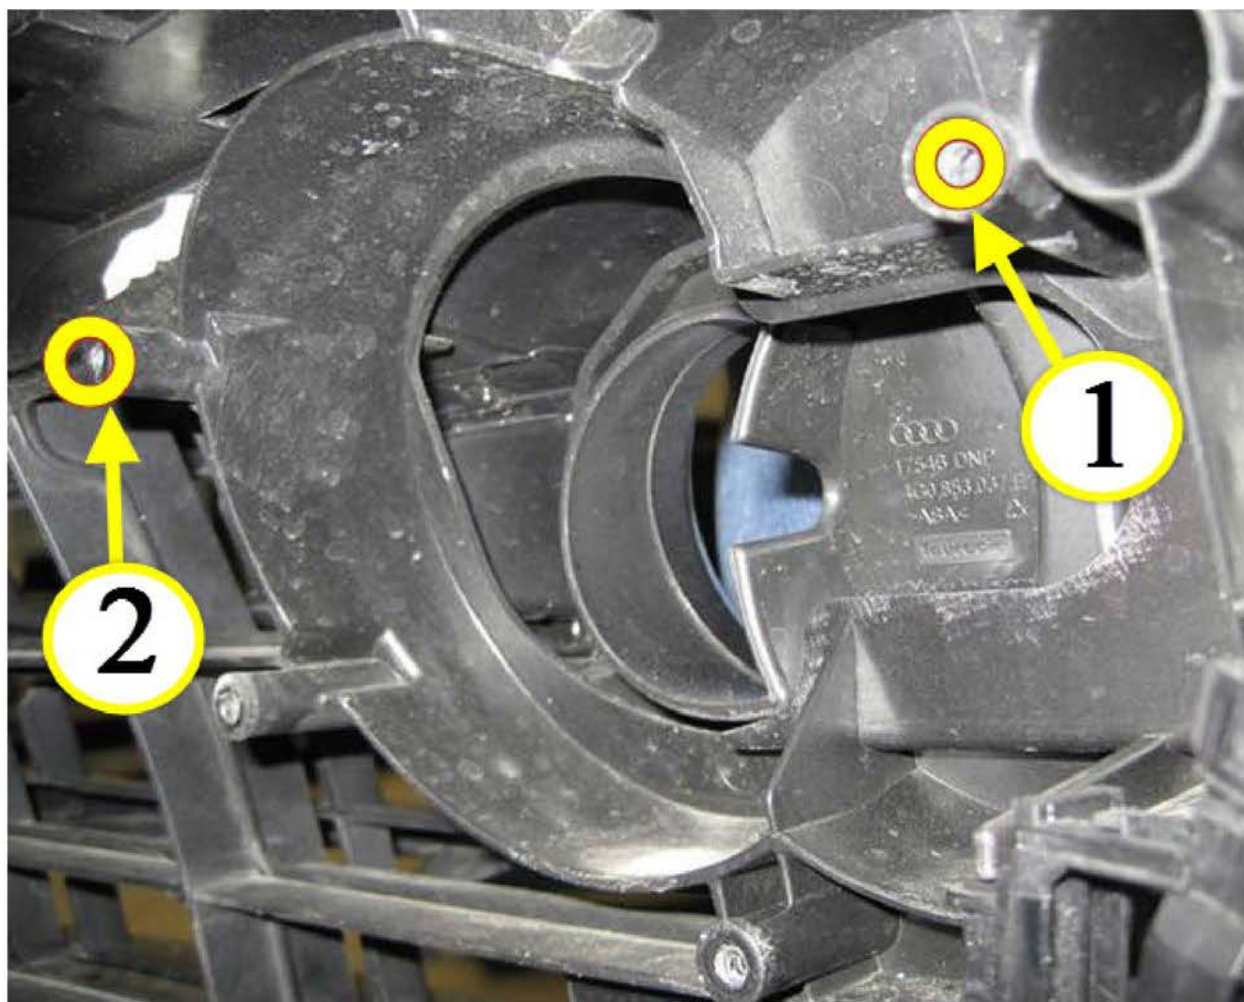

Figure 2. Radiator grill screw retainer locations with camera removed for reference. Spacer (N01152322) will be placed at locations 1 and 2.
7. Place a single spacer, part number N01152322, between each of the two upper mounting points that secure the night vision camera bracket to the radiator grill. These screws are shown in the above image as points 1 and 2 (Figure 1). The image below (Figure 2) references these points on the radiator grill as 1 and 2. The next image (Figure 3) shows placement of the spacer on the camera as points 1 and 2, the camera has been removed for clarity.